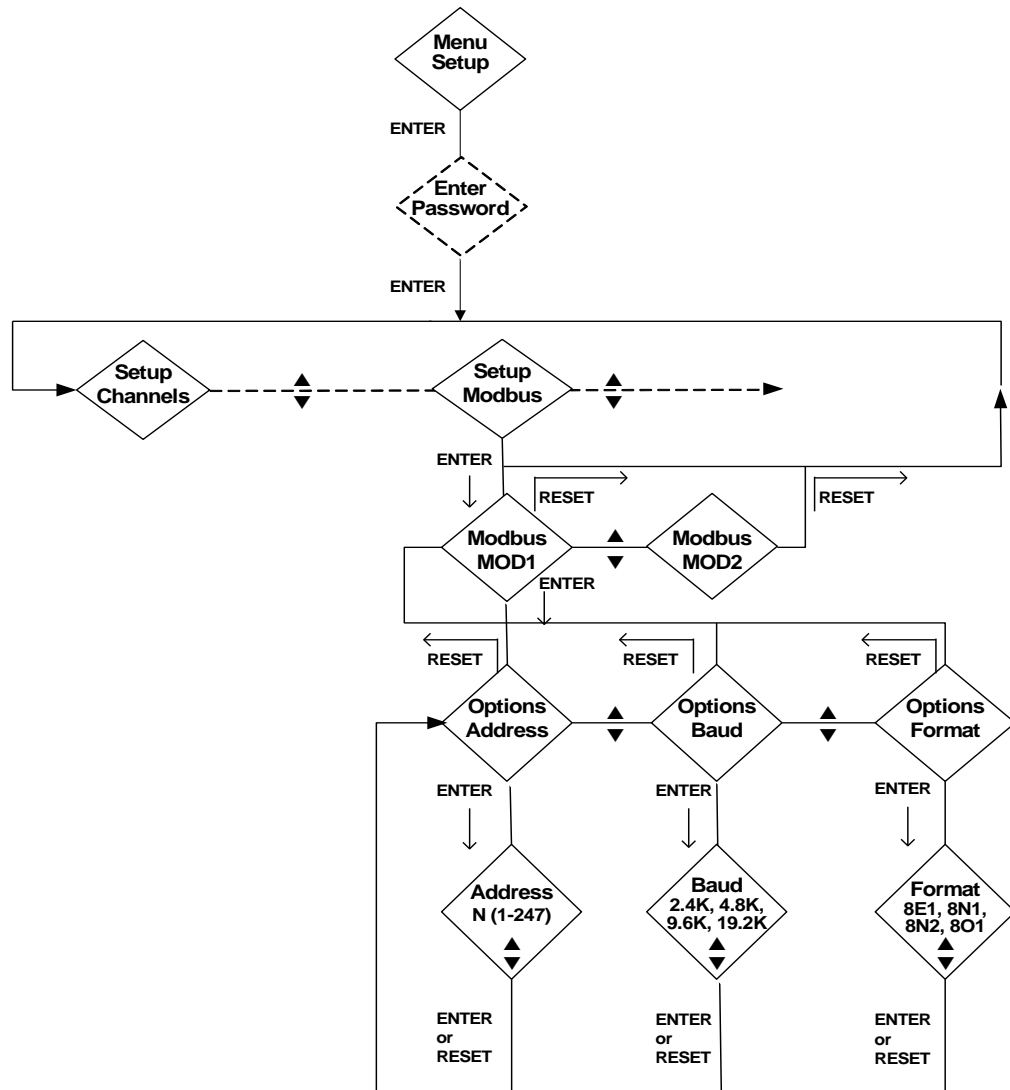

Figure 45: Setup MODBUS Submenu
- The default Data Format setting for both channels is 8 data bits, no parity, and 1 stop bit. The data formats you can select are shown in Figure 45.